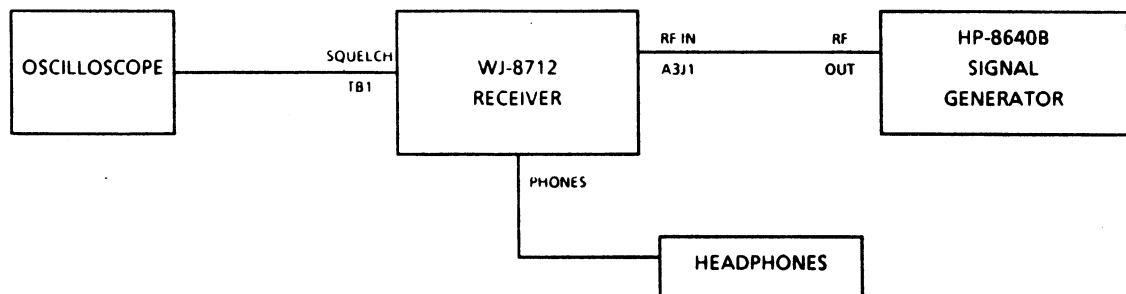

Figure 7-6. Squelch/Mute Performance Test Equipment Connection
1. Connect the WJ-8712 Receiver and test equipment as illustrated in Figure 7-6.